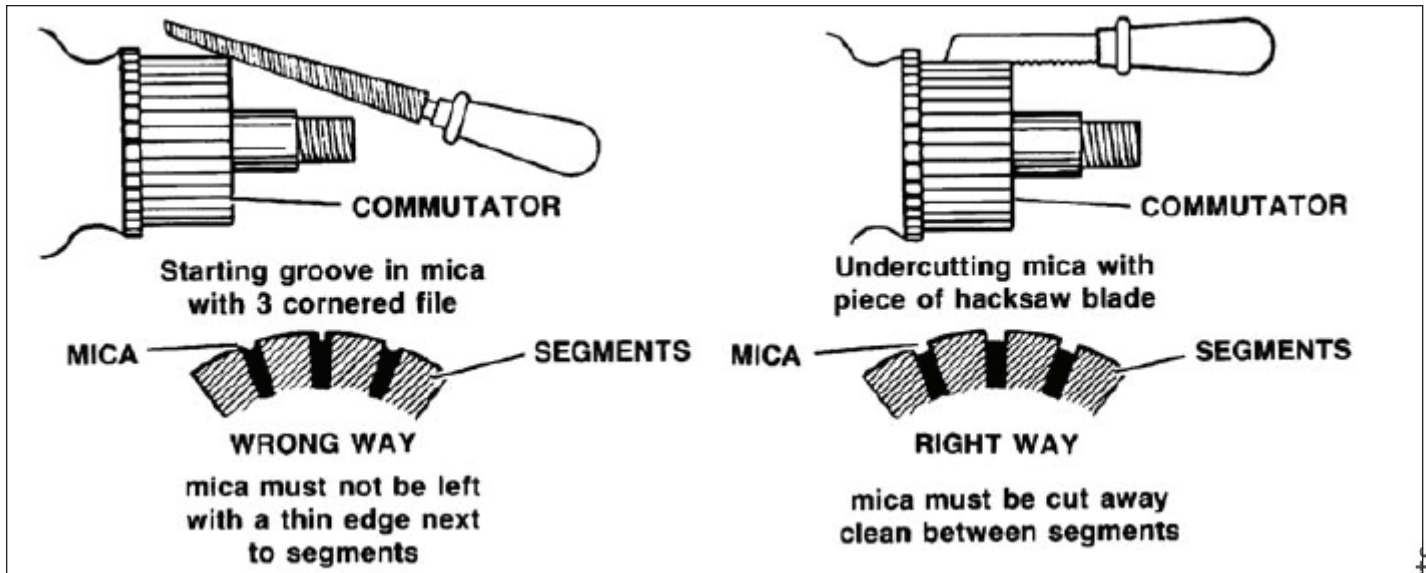

Figure 10-11. Undercutting the Armature
2. Support the armature at both bearing journals. Check run-out of commutator with a dial indicator. Total indicated run-out should not exceed 0.005 inch (0.12 mm). If the readings fall outside this limit, commutator must be turned and re-undercut. Figure 10-11.